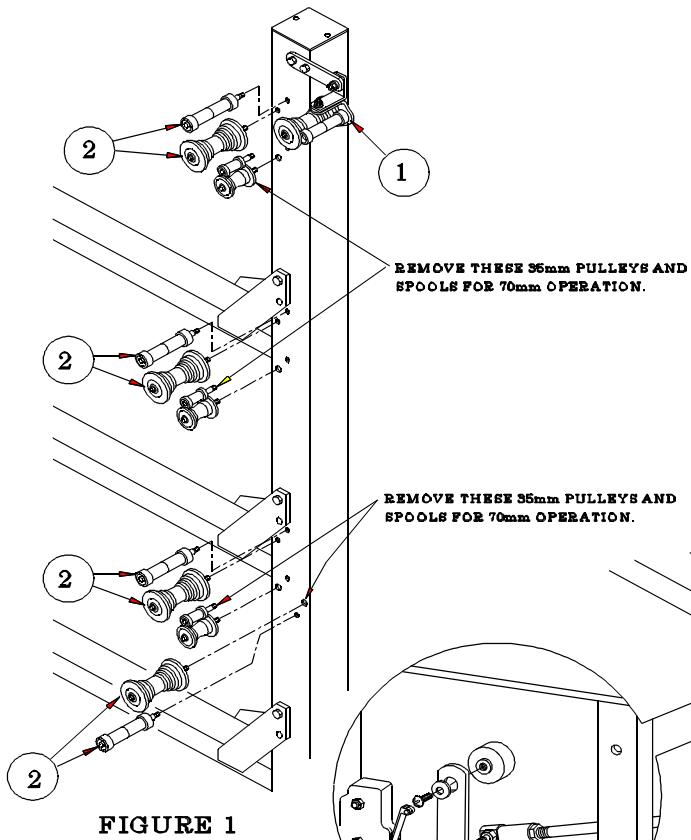

FIGURE 1
1. Replace the 35mm Castor Swivel and Bracket at the top of the column with the new 70mm Bracket and Castor Swivel Assembly, Right. (See item 1, page 2).
2. Install new 70mm Column Shaft & Pulley Assemblies (1552), new Column Pulley Shafts (1655) and Spool Assemblies (1491) in the new holes in the column as shown in Fig. 1, page 2.